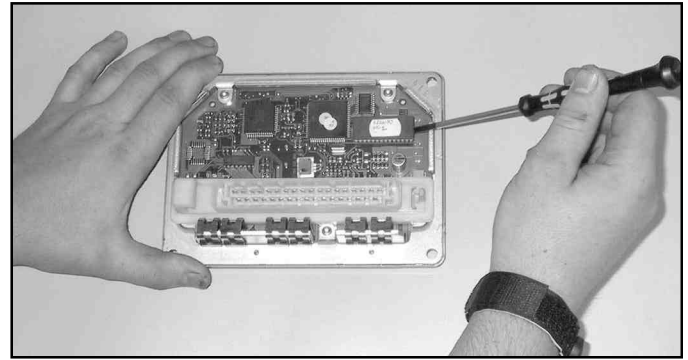

Figure 13
14. Using the Anti-static screwdriver, carefully remove the chip from the unit. **Figure 13.**